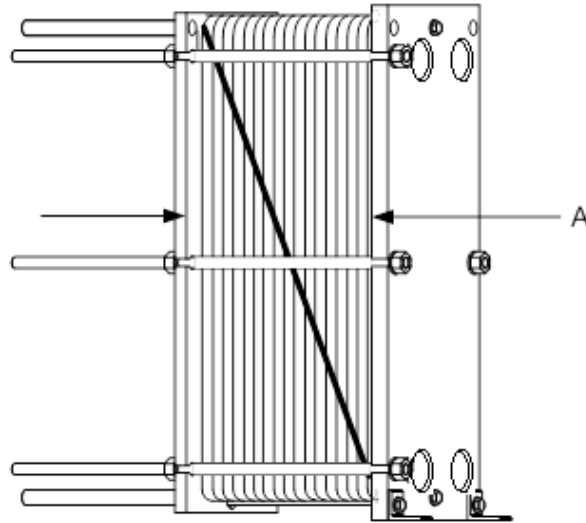
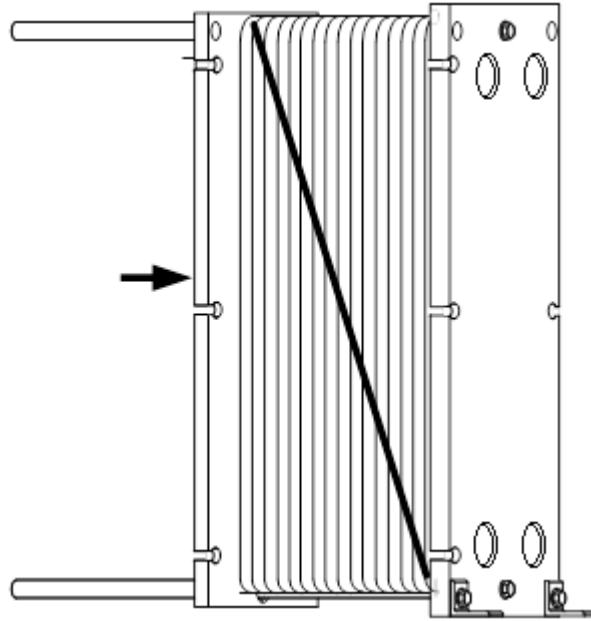

Figure 8-8. Measurement of Plate Pack Dimension "A" – Splash Guard Removed
Figure 8-13. Closing the Heat Exchanger
7. Remove the protective splash guard to provide access to the plate pack assembly (see Figure 8-8, below).
8. Mark the plate pack assembly with a diagonal line as shown in Figure 8-8 or number the plates in sequence.
9. Measure and record the lateral dimension "A" between the frame plate and pressure plate as shown in Figure 8-8.
5. Slide the pressure plate forward and press the plates together (Figure 8-13). If the plate pack was previously marked on the outside (Figure 8-8), check to ensure that the plate arrangement agrees with the markings.